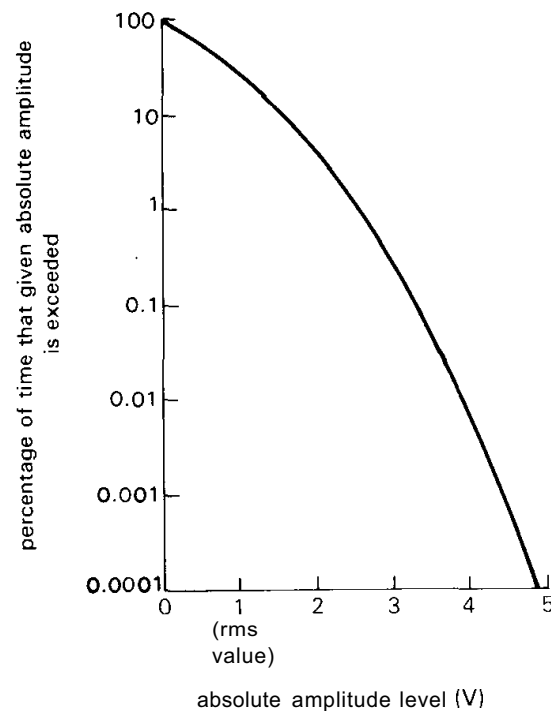

Figure 7.66. Relative occurrence of amplitudes in Gaussian noise.
4. Relative occurrence of amplitudes in Gaussian noise. Figure 7.66 gives the fractional time that a given amplitude level is exceeded by a Gaussian noise waveform of amplitude 1 volt rms.